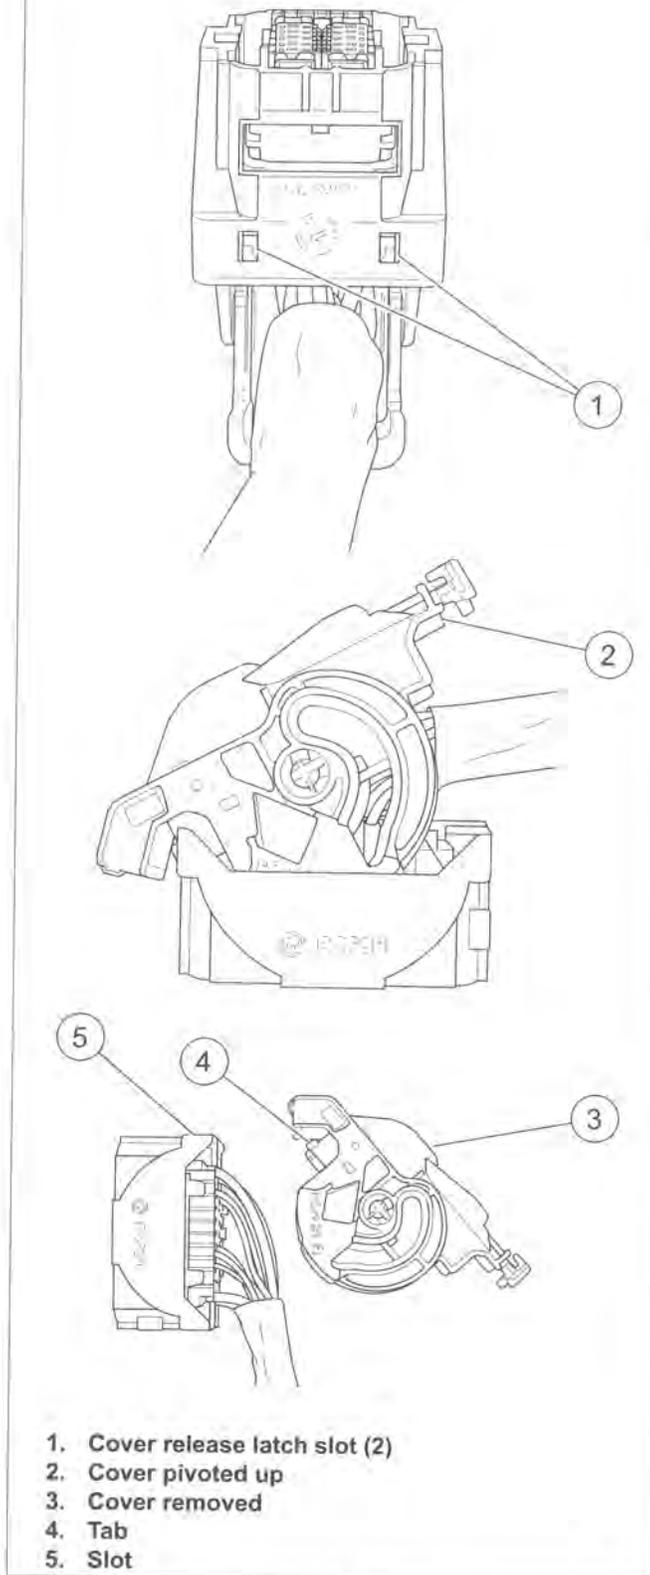

Figure A-8. Removing Bosch BTC Sealed Connector Cover
- b. See Figure A-8. Insert the blade of a small screwdriver into cover release latch (1) slot.
- d. Grasp cover and pivot up (2) and away from connector.
- a. See Figure A-8. Start cover into connector body at an angle. Engage tabs (4) in slots (5).